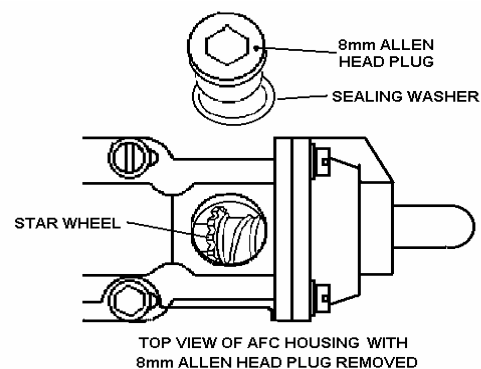

FIGURE 7
36. Test drive the vehicle. It should now have much more power and quicker acceleration. Observe acceleration rate and smoke. If vehicle is still slow to accelerate or has too much smoke, adjust the AFC setting as required. To adjust, remove the large plug on top of the AFC housing (see FIGURE 7) using an 8 mm allen wrench. Take care not to loose the sealing washer under the plug. Removing the plug exposes a star wheel which changes the quickness of fueling response to boost. If acceleration is weak with minimal smoke, rotate top of the star wheel toward the engine a few revolutions. If vehicle has heavy black smoke on initial acceleration, rotate top of star wheel away from engine a few revolutions. Reinstall large plug with sealing washer and test drive vehicle again. It may take repeated attempts to get this adjustment set. If heavy smoke is still encountered with star wheel moved completely to rear position, go back to step 26, loosen AFC housing and slide it rearward a 1/16 inch, retighten and test again. Repeat until desired results occur.